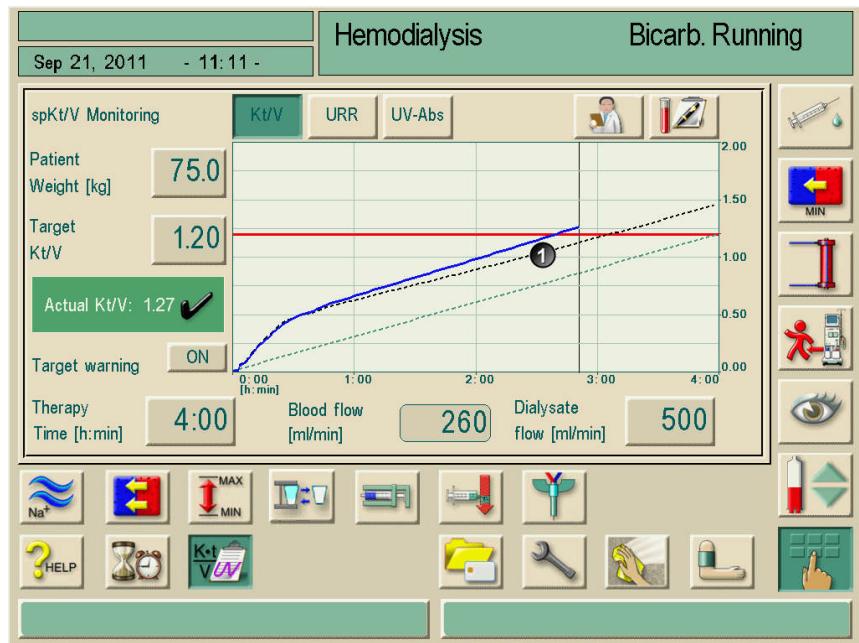

Fig. 10-18 Display of the black dashed progress line
- By touching one of the displayed therapies the screen showing the black dashed progress line (Fig. 10-18, 1) opens: